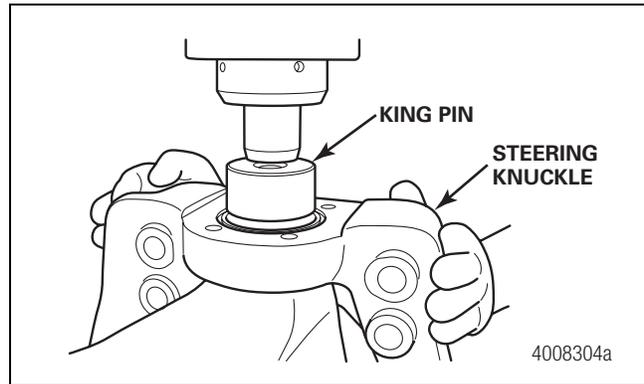

Figure 9.6
8. Use a press and suitable driver to install the king pins through the knuckle and into the housing sockets. The pin is fully seated once it has bottomed out against the housing socket face. Figure 9.6.